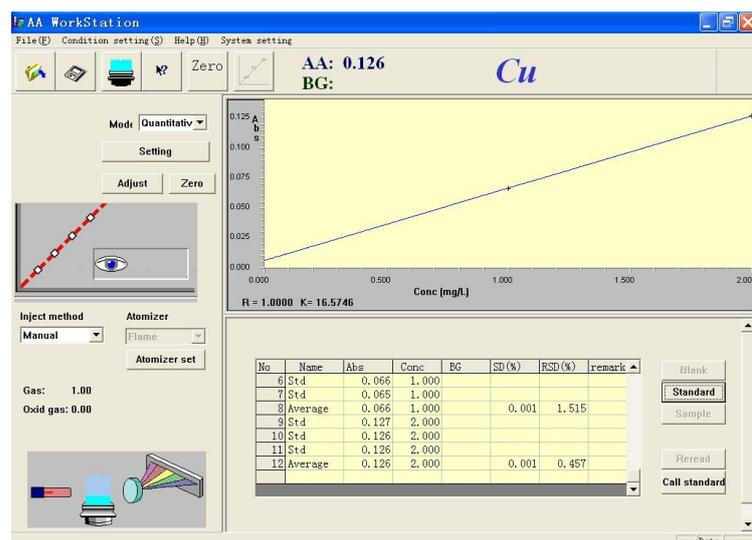

Figure 5-15
12. Measure the other two standard samples according to the steps described above. After the standard samples have been tested, and the screen will be shown as that in Figure 5-15. The standard sample testing is complete.